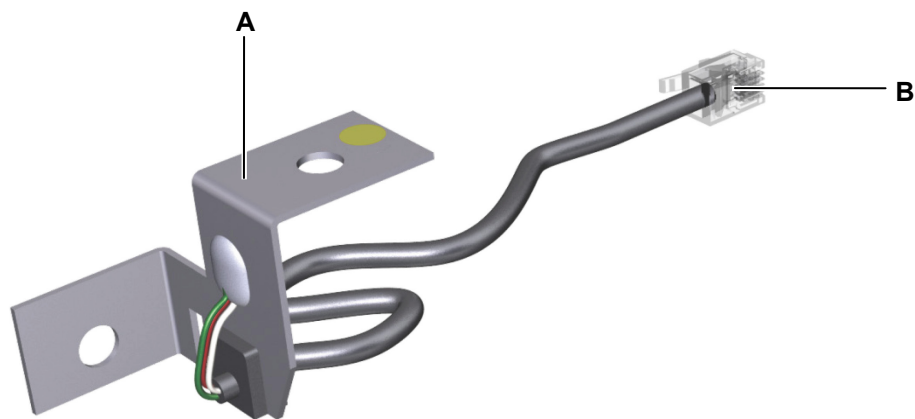

Figure 41 Sensor
- The sensor is attached to both the table frame and the tabletop. The contact point with the tabletop is marked with a yellow dot, as shown in Figure 41.